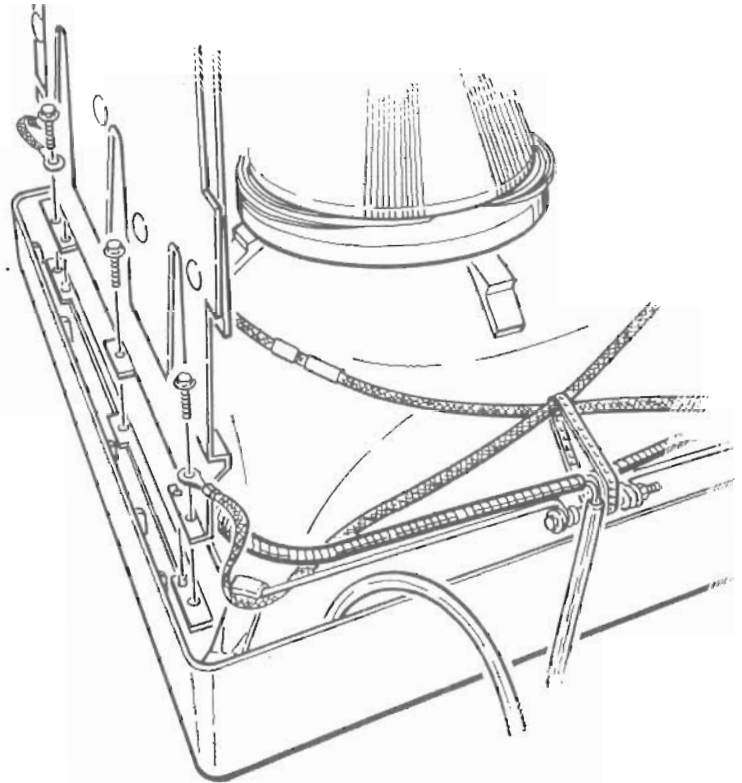

Figure 3-11. Power Supply/Focus Board Assembly Removal
7. Refer to Figure 3-11 and remove the three hex screws that secure the power supply/dynamic focus board assembly to the bezel. Note the locations of the ground braid terminals.